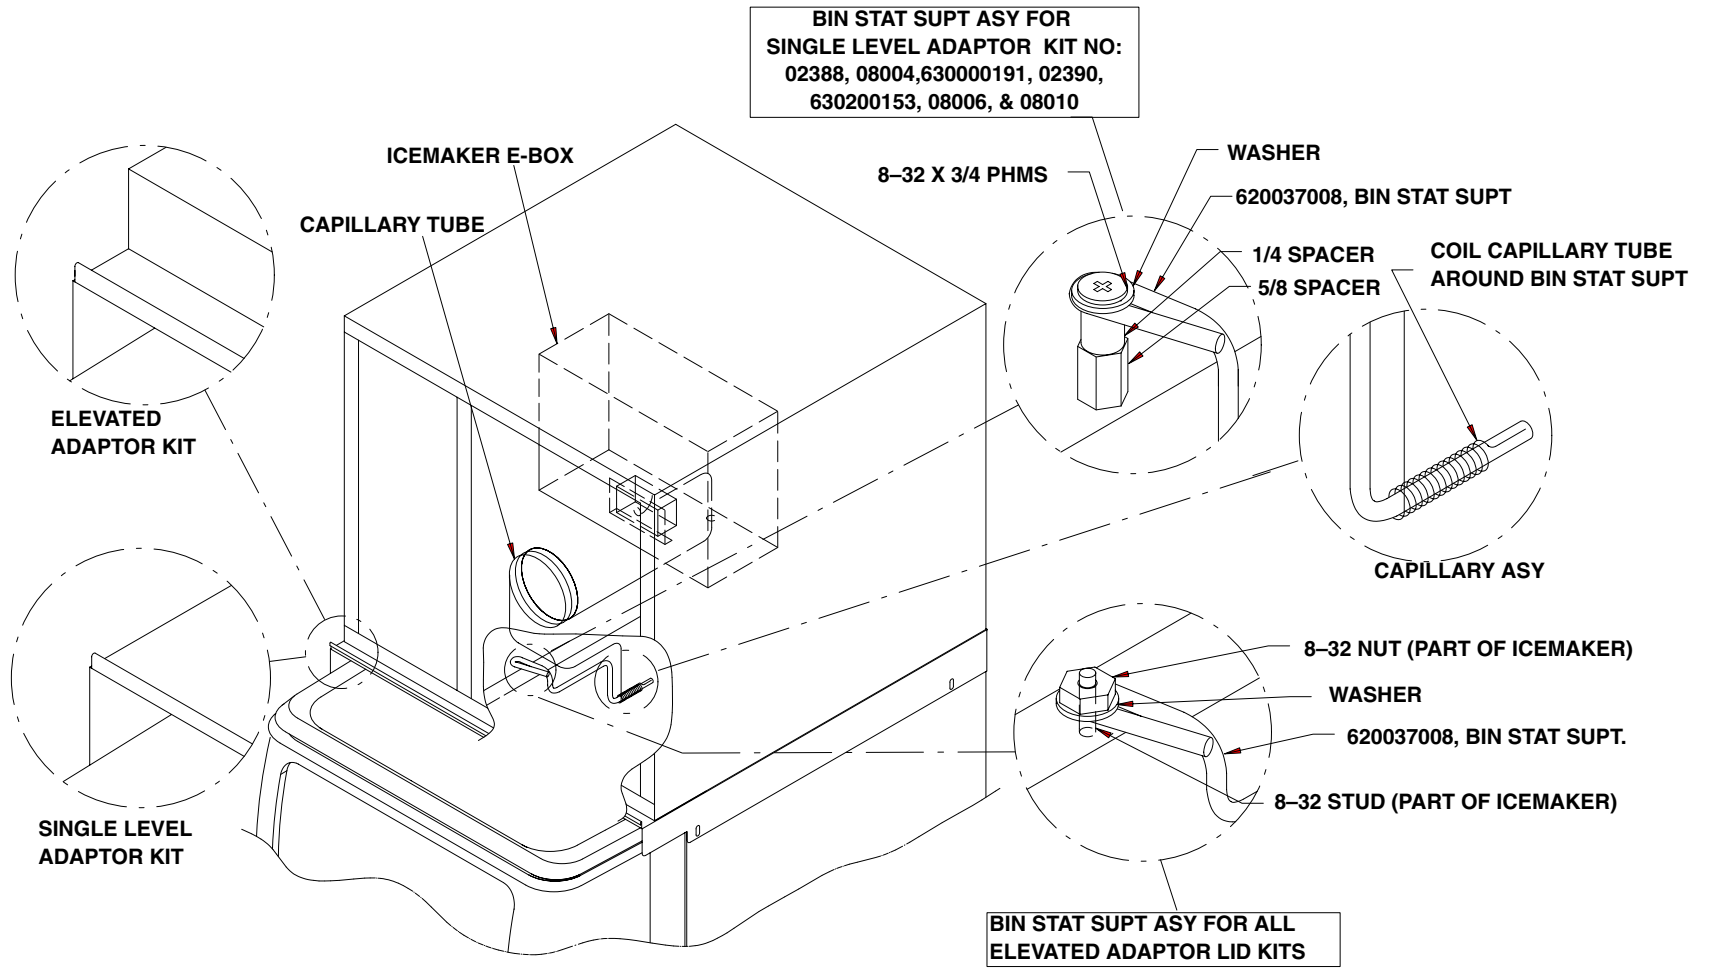

FIGURE 2
7. Remove the 8-32 nut (closest to the 1/2" DIA hole) that holds the compartment wall to the base. The adapter kits that have a single level, adapter kits P/N's 02390, 630200153, 08006, 02388, 08004, 630000191 and 08010) require a 7/8" high spacer be used to mount the binstat support. Thread the 8-32 x 5/8" hex spacer on to the compartment stud. Then fasten the thermostat support to the hex spacer using the 1/4" high plastic spacer, #8 flat washer and 8-32 x 3/4" long phil. head screw. **The spacers are not to be used on the elevated adapter kits. Refer to Figure 2.**